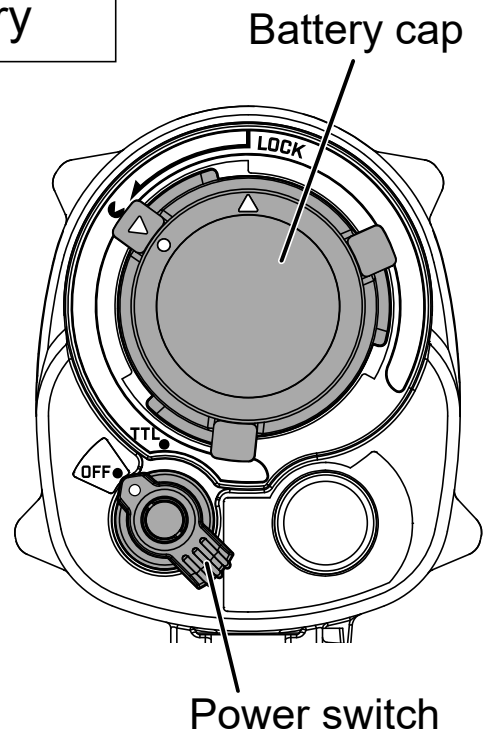

Fig.1
**1** Make sure that the mode switch is in the OFF position (Fig.1)
**2** Turn the [ ▽ ] mark counter-clockwise to the OPEN [ ⊙ ] position (Fig.1)